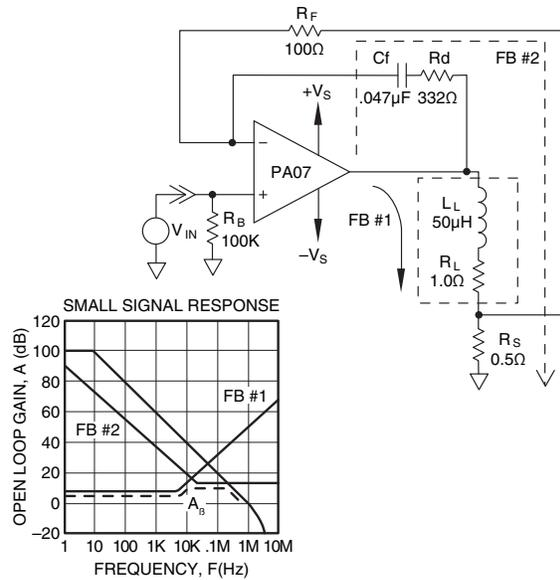

FIGURE 6. COMPENSATING THE AMPLIFIER corner.
To provide this response, the alternate feedback components have been selected to provide the compensating response illustrated in Figure 6.  $A_B$  in Figure 6 is the dominant feedback path the amplifier will see in its closed loop configuration.  $R_F$  merely acts as a ground leg return impedance for the alternate feedback loop, and should be a low value between 100 and 1000 ohms.  $R_d$  is then selected to provide the desired high frequency gain, and  $C_f$  is selected for the alternate feedback
In the example in Figure 5, the curve referred to as feedback response is actually representative of the closed loop noise gain response of the amplifier due to the feedback network consisting of yoke and sense resistor. In Figure 6, an additional feedback response for  $C_f$ ,  $R_d$ , and  $R_F$  is plotted independently of all other responses. There are several important points to be noted in the use of these graphs:
1. In the case of multiple feedback networks such as in Figure 6, the response with the lowest noise gain at any given frequency will be the dominant feedback path. In Figure 6 this dominant feedback path is labelled  $A_{\beta}$ .